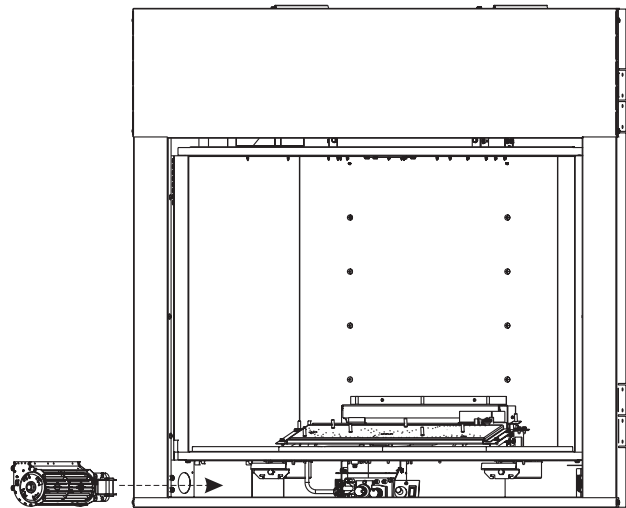

Figure 20
4. Install blower through bottom opening. See Figure 20.